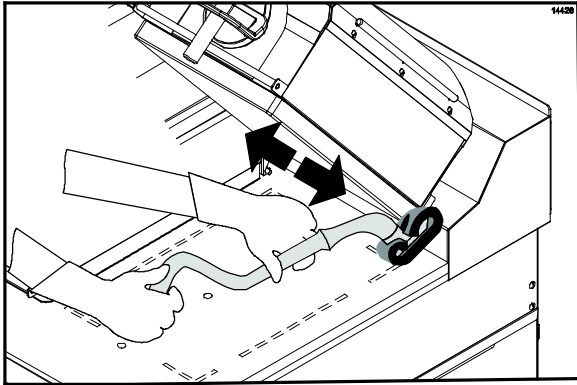

Figure 91
17. Apply the grill cleaner to the back side of the platens, from the right platen to the left platen. (See Figure 91.)